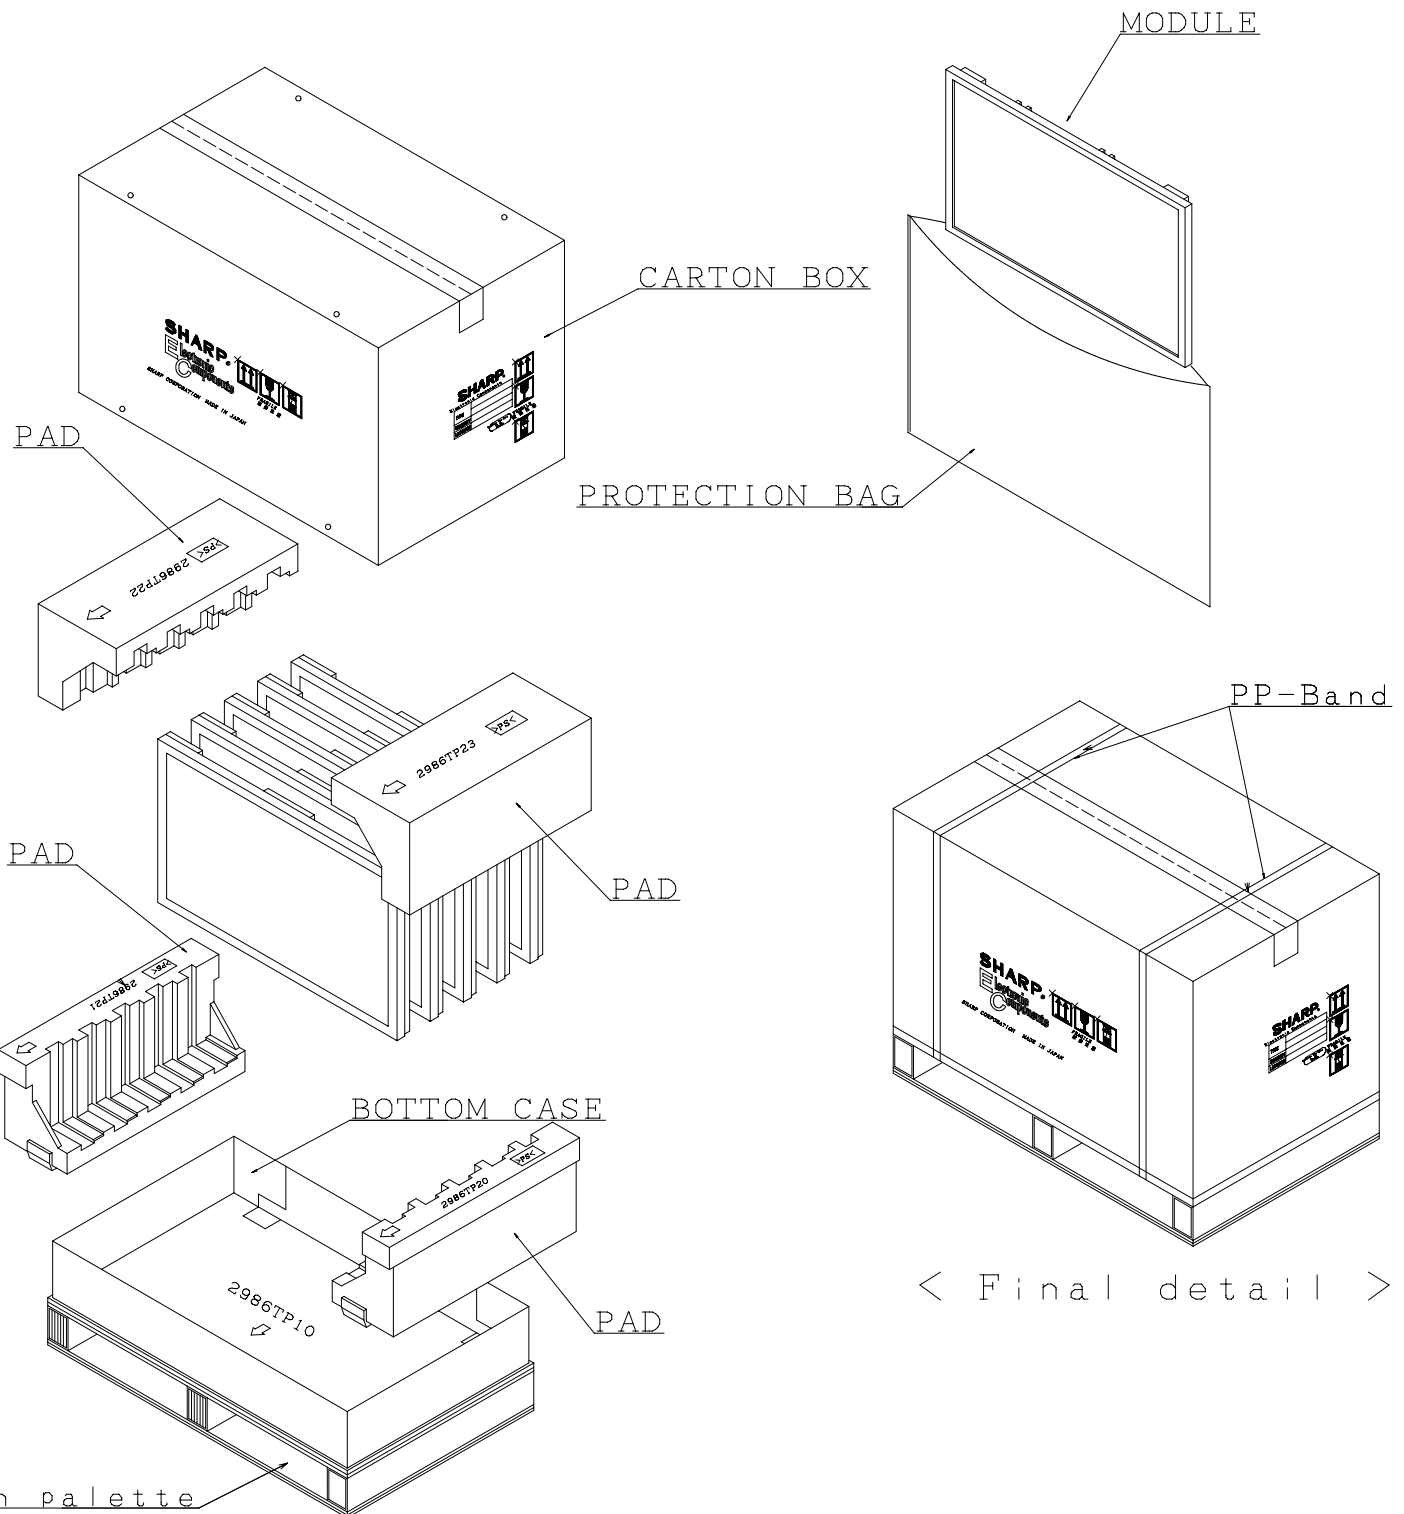

Fig 4. Module packing form
- Brightness control voltage is switched for "ON" and "OFF", as shown in Fig.4. Voltage difference generated by this switching, ΔV_{INV} , may affect a sound output, etc. when the power supply is shared between the inverter and its surrounding circuit. So, separate the power supply of the inverter circuit with the one of its surrounding circuit.
- c) Carton size : 1186(W) × 572 (D) × 822 (H)
- e) Packing Form are shown in Fig.4